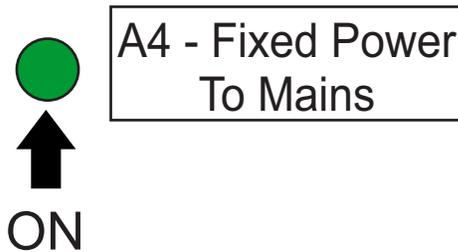

Figure 157. A4 - Fixed Power To Mains Status Indicator (ON/GREEN)
5. Verify that the **A4 - Fixed Power To Mains** status indicator (Figure 157) is **ON (GREEN)**.